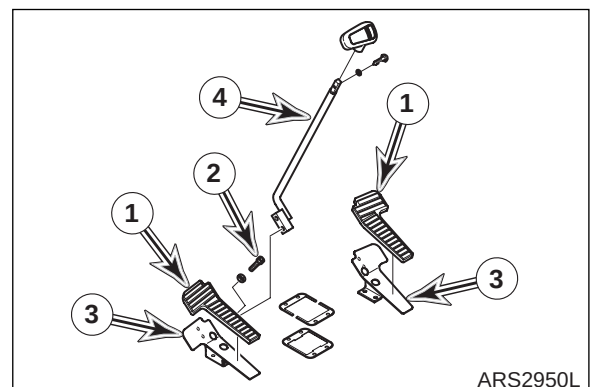

Figure 9
9. Remove rubber boots (1, Figure 9).
10. Remove four bolts and washers (2, Figure 9), pedal brackets (3), and levers (4).